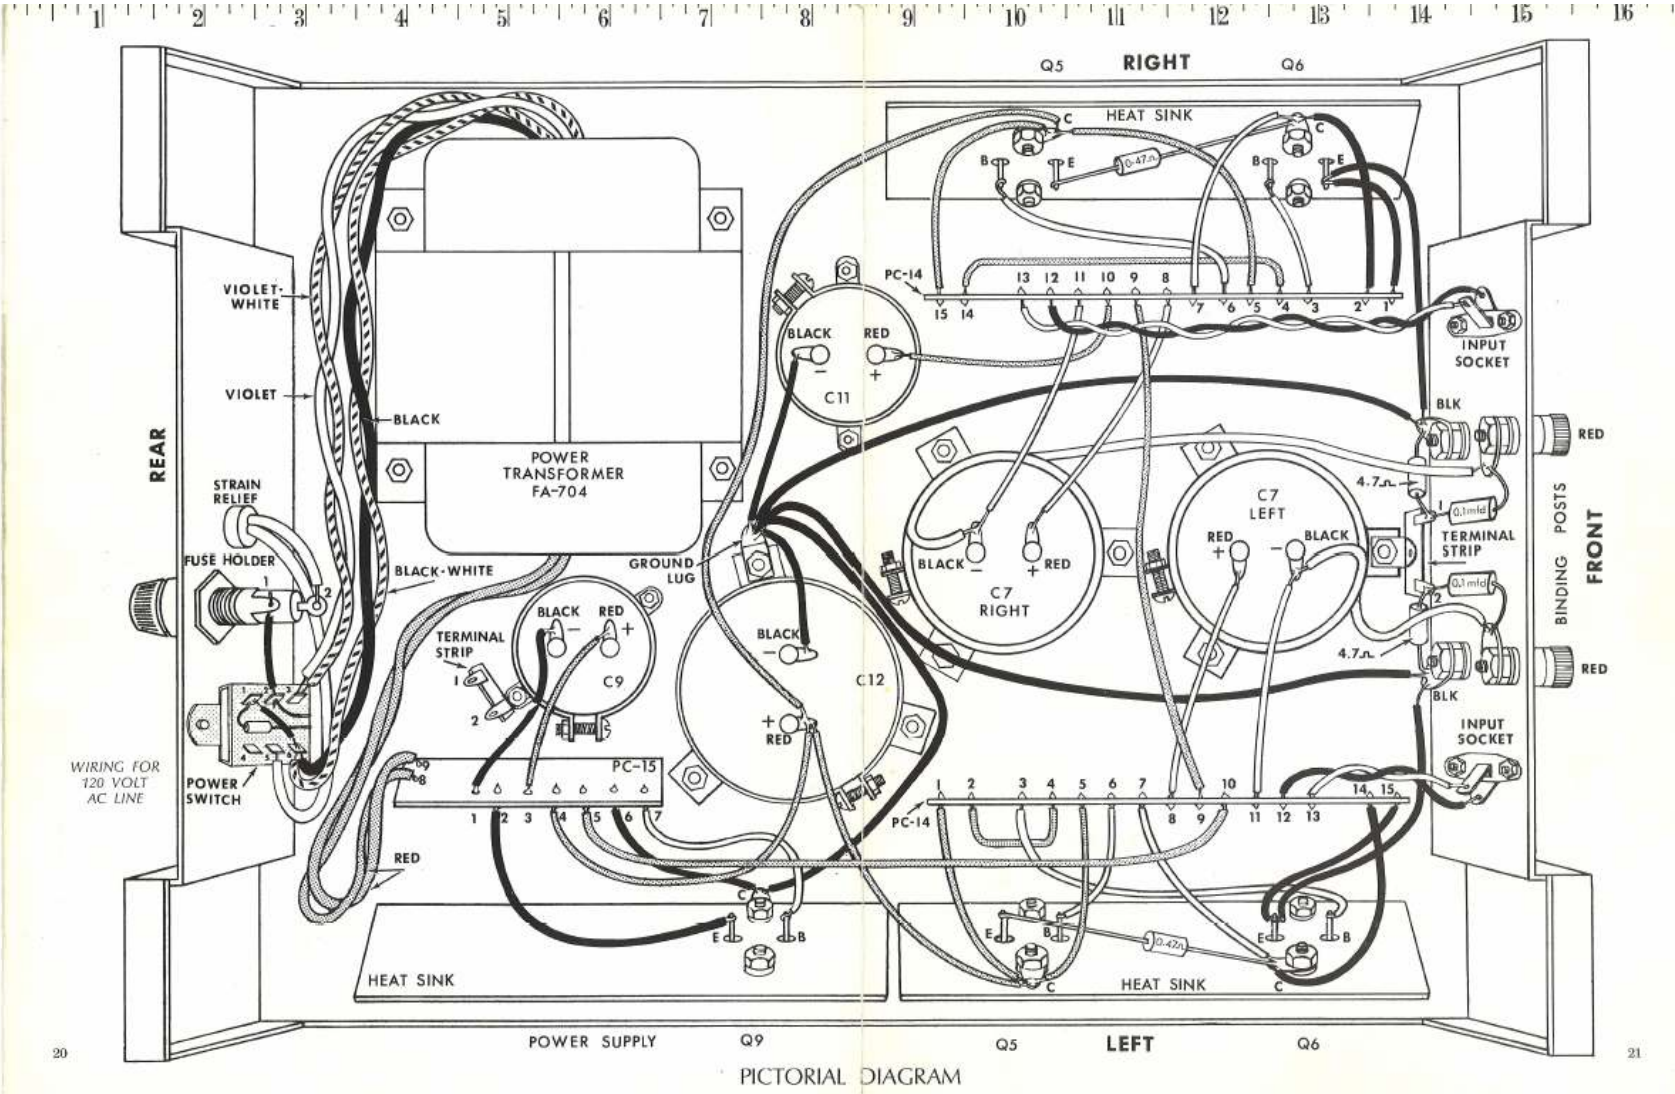
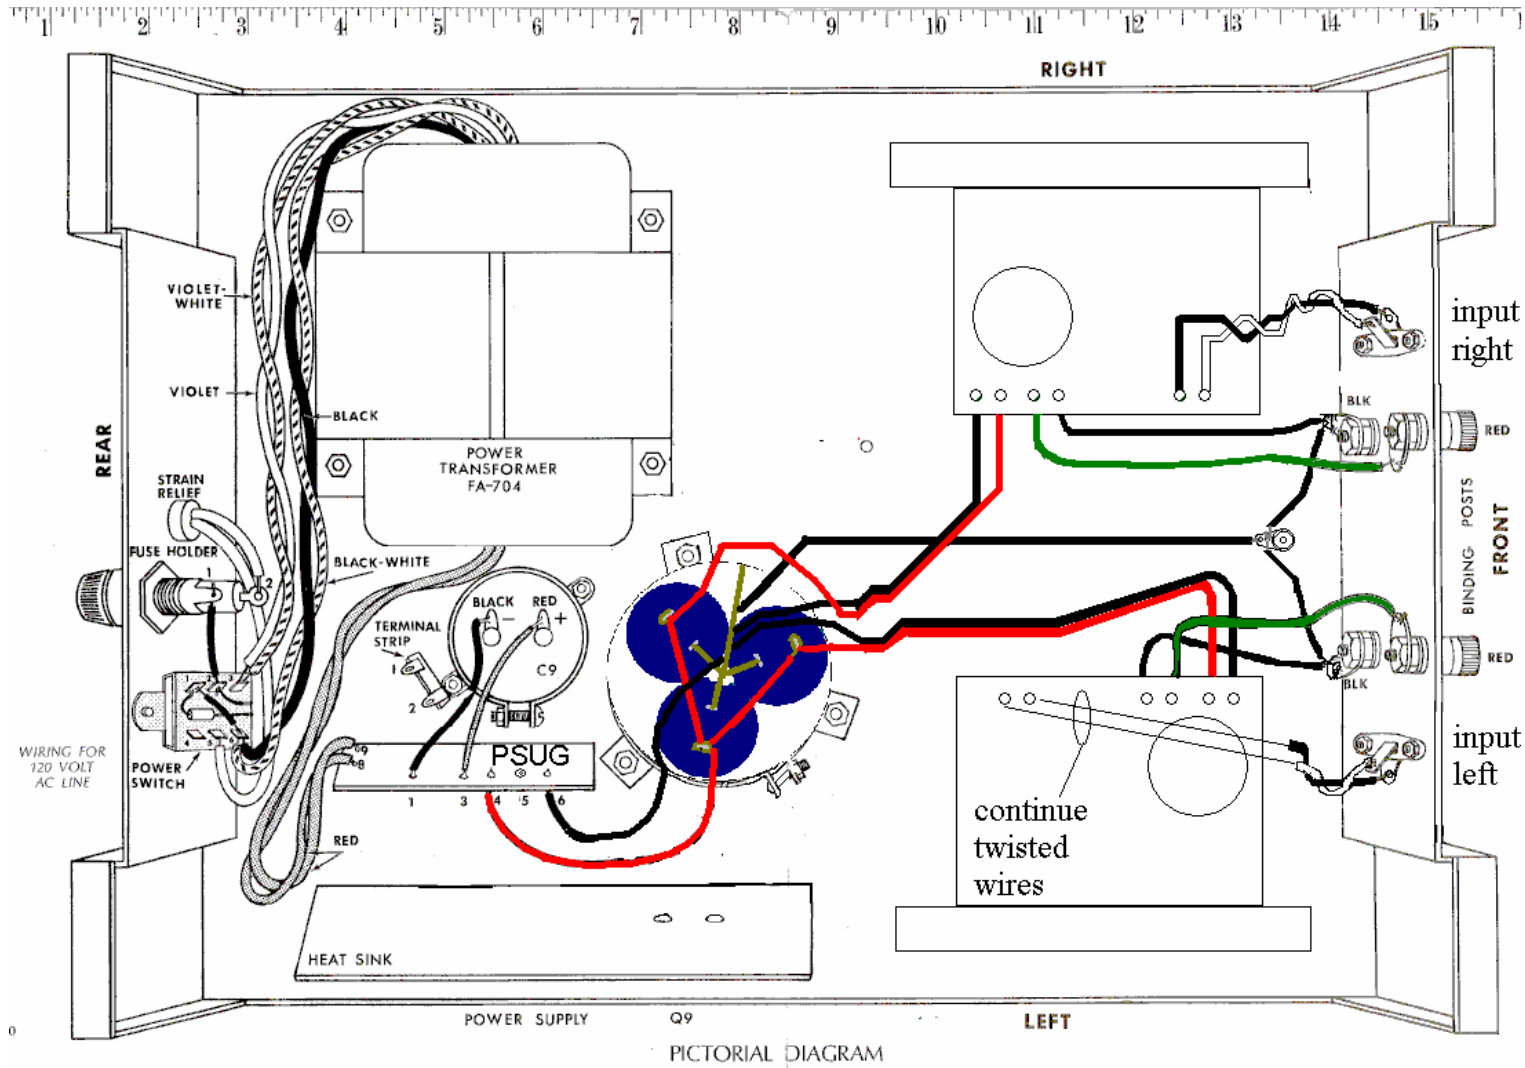

Figure 5-Stock amplifier layout (before C12 replacement)
Figure 9-PSUG Power Supply and Updatemydynaco amplifier modules, after C12 replacement
4. Refer to Figure 5. Measure the DC voltage present on the terminals of C12. The nominal voltage is 72 volts.
2. De-solder the red and black wires from C9, at the C9 end (see Figure 5).
Now it's time to install the new capacitor arrangement and reconnect the wires. Review Figure 5 through Figure 9 to determine which is closest to your replacement conditions. Use those Figures to guide the re-wiring of the C12 replacement capacitor.